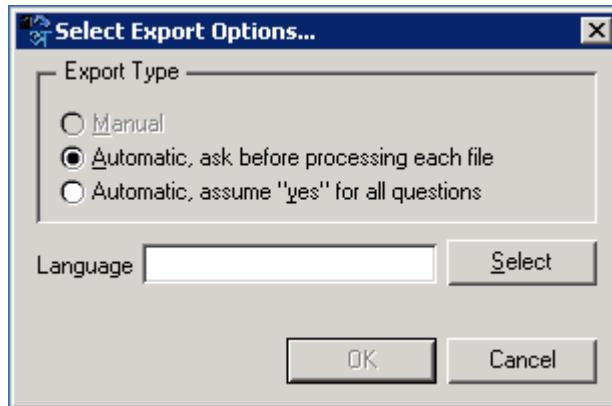

Figure 36: The **Select Export Options...** dialog box
2. Select **VSO Export** from the **Texts** menu. The **Select Export options...** dialog opens, see Figure 36.
1. Select **VSO Export** from the **Texts** menu. The **Select Export options...** dialog appears, see Figure 36.